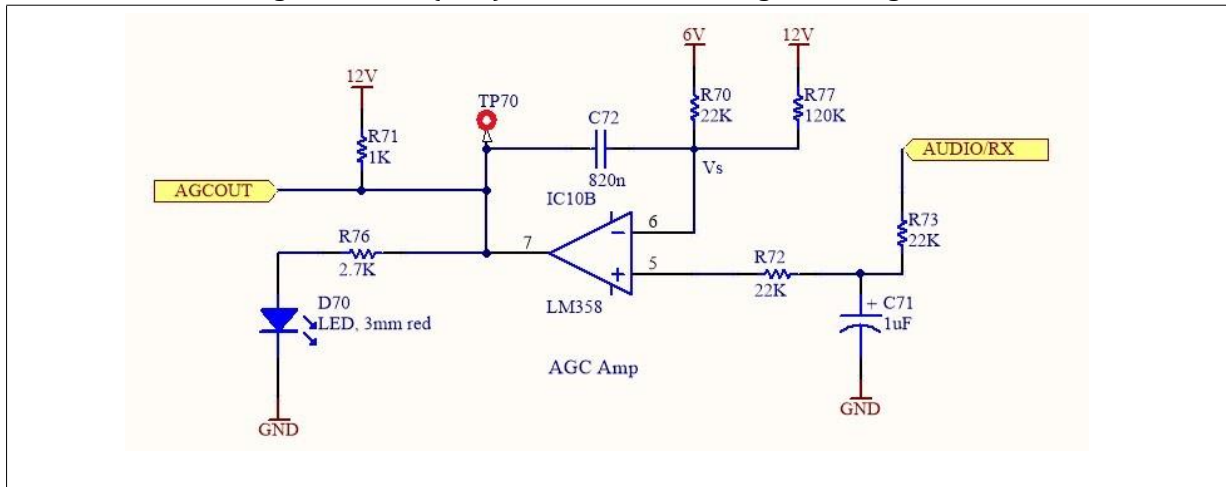
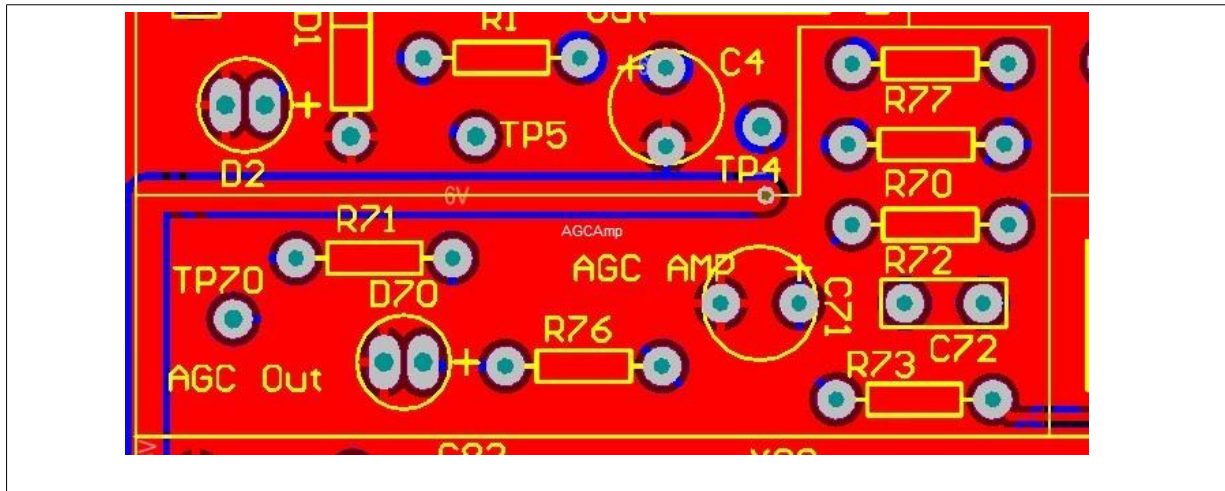

Figure 4: Automatic gain control circuit.
Figure 6: Correct PCB annotations for AGC circuit.
- The automatic gain control (AGC) circuit of TRC-11 is given in Fig. 4.
1. Now, we are ready to incorporate the automatic gain control (AGC) circuitry to prevent saturation of the IF amplifiers. Refer to Fig. 4. Note that the PCB annotations of C72 and R72 are inadvertently swapped. Correct PCB annotations are shown in Fig. 6.
2. The automatic gain control (AGC) circuit of TRC-11 is given in Fig. 4. Place R70, R71, R72 (in its corrected place), R73, R75, R77, and D71. Watch the direction of the PIN diode. Solder them. Cut the leads on the back side.